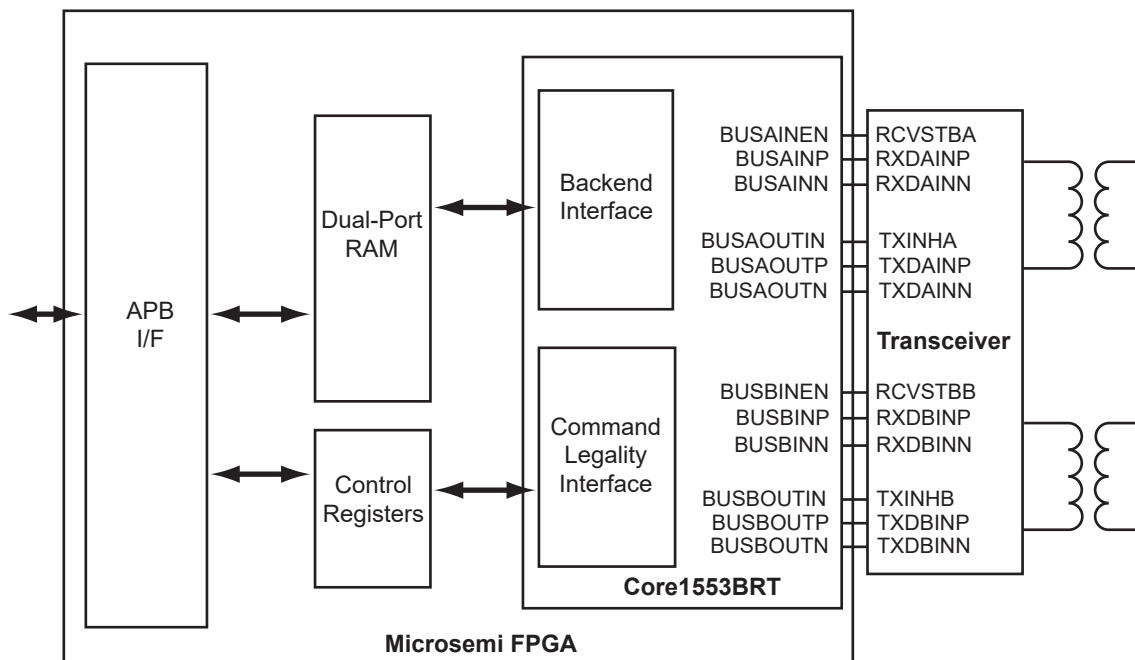
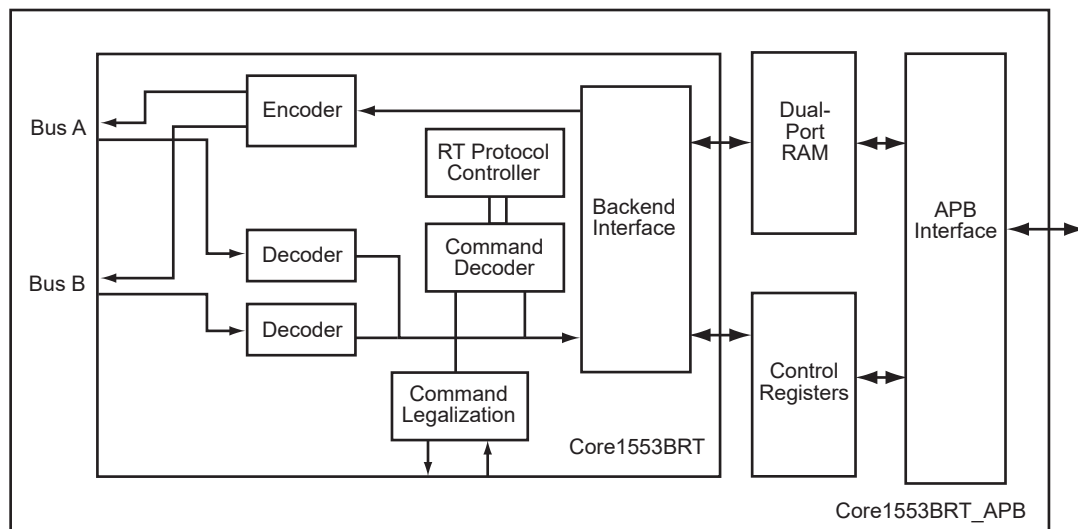

Figure 1-1 • Typical Core1553BRT_APB System
Figure 1-2 • Remote Terminal Block Diagram
Core1553BRT_APB provides a complete, dual-redundant MIL-STD-1553B remote terminal (RT), apart from the transceivers required to interface to the bus. A typical system implementation using Core1553BRT_APB is shown in Figure 1-1 and Figure 1-2 on page 4.
The core consists of six main blocks: 1553B encoder, 1553B decoders, the APB interface, a command decoder, RT controller blocks, and a command legalization block (Figure 1-2 on page 4).